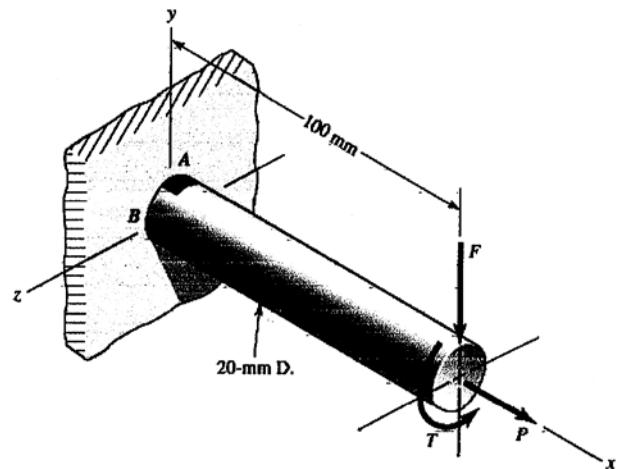

Figure Q6(b)
- (b). A circular beam (diameter 20 mm and length 100 mm) is made of cold-drawn steel with $S_{yt} = 460$ N/mm². It is loaded simultaneously by axial tensile load (P), transverse bending load (F) at the free end and twisting moment (T) as shown in Figure Q6(b). The magnitudes of the forces are as follows: $F = 0.75$ kN, $F = 5.0$ kN, and $T = 40$ N-m. Write down the different type of stresses present at point A and B on the post. Determine the factor of safety at the critical point following Maximum normal stress theory, Maximum shear stress theory and Distortion energy theory. Are all the results equally acceptable corresponding to the material of the beam? Explain. [02+09+01]